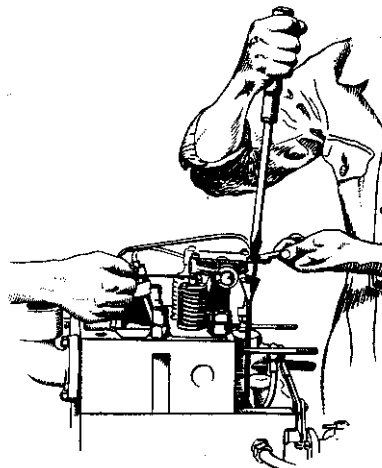

Fig. 9
- iii. Check clearance, after applying slight pressure on top of adjusting screw, between hardened valve cap and the rocker pad. See Fig. 9.